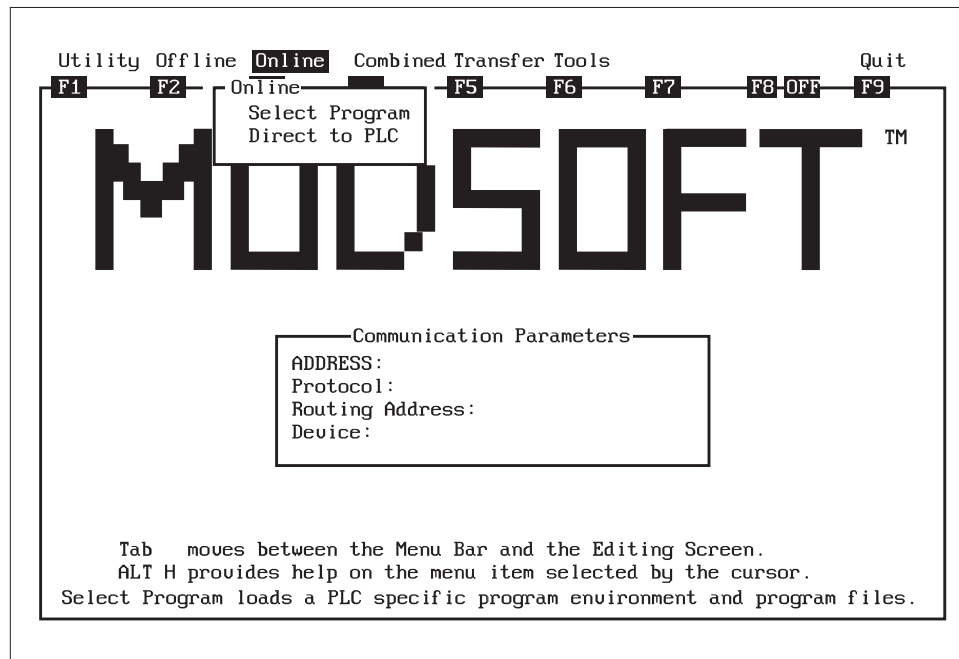

Figure 3-6
- Press the <Enter> key again when the Modsoft Default screen appears. See *Figure 3-6*.